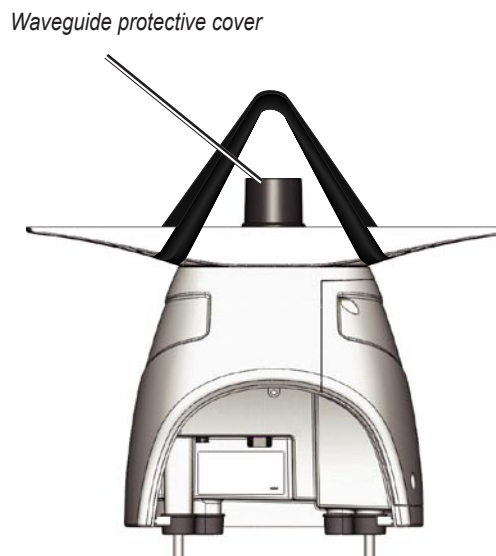

Figure 5
2. Hoist the radar into position using the supplied strap. Position the strap over the ends of the antenna mount as shown in Figure 5. Ensure that you position the strap as close to the radar as possible.